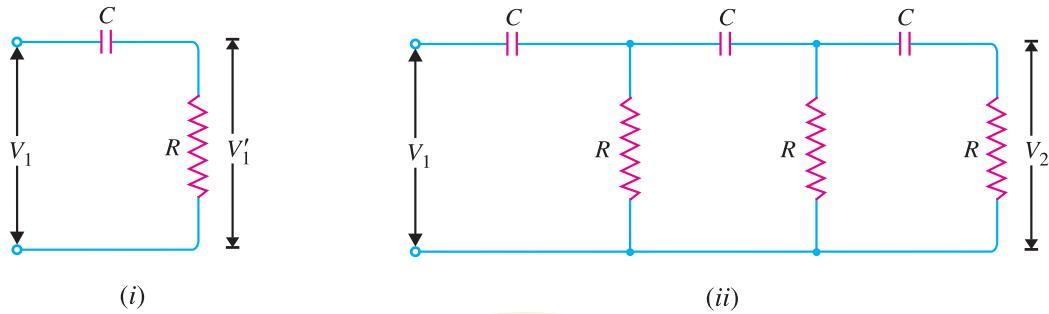

Fig. 14.16
**Phase shift circuit.** A phase-shift circuit essentially consists of an *R-C* network. Fig. 14.16 (i) shows a single section of *RC* network. From the elementary theory of electrical engineering, it can be shown that alternating voltage  $V'_1$  across  $R$  leads the applied voltage  $V_1$  by  $\phi^\circ$ . The value of  $\phi$  depends upon the values of  $R$  and  $C$ . If resistance  $R$  is varied, the value of  $\phi$  also changes. If  $R$  were reduced to zero,  $V'_1$  will lead  $V_1$  by  $90^\circ$  i.e.  $\phi = 90^\circ$ . However, adjusting  $R$  to zero would be impracticable because it would lead to no voltage across  $R$ . Therefore, in practice,  $R$  is varied to such a value that makes  $V'_1$  to lead  $V_1$  by  $60^\circ$ .
Fig. 14.16 (ii) shows the three sections of *RC* network. Each section produces a phase shift of  $60^\circ$ . Consequently, a total phase shift of  $180^\circ$  is produced i.e. voltage  $V_2$  leads the voltage  $V_1$  by  $180^\circ$ .